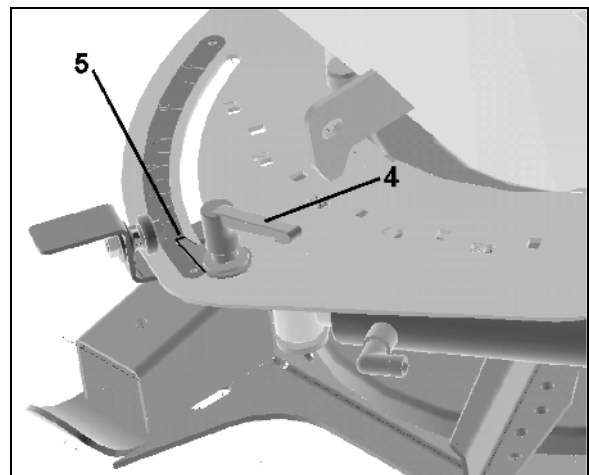

Fig. 37
2. Slacken the thumb nut (Fig. 37/4).
3. Adjust the thumb nut with pointer so that the read-off edge of the pointer (Fig. 37/5) is set to the desired value on the scale.